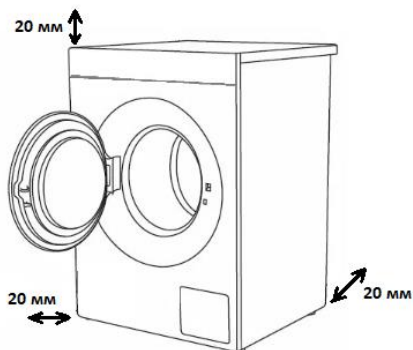

Fig. 4
- Observe a distance of 20 mm to the wall or nearby objects (see Fig. 4)